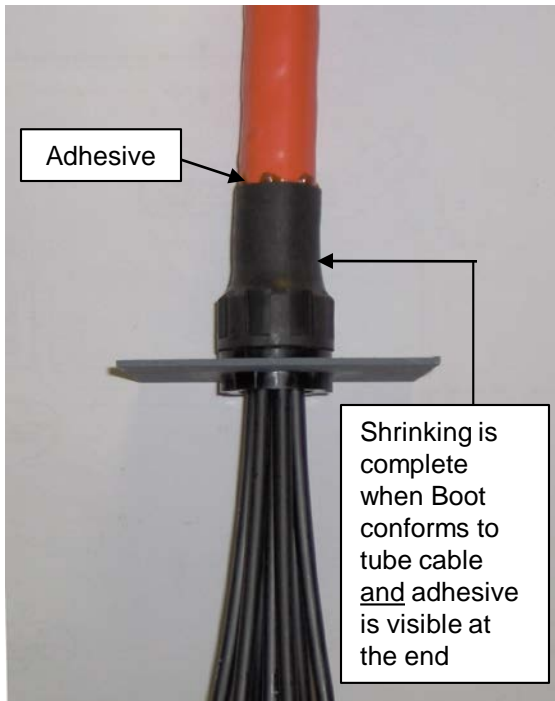
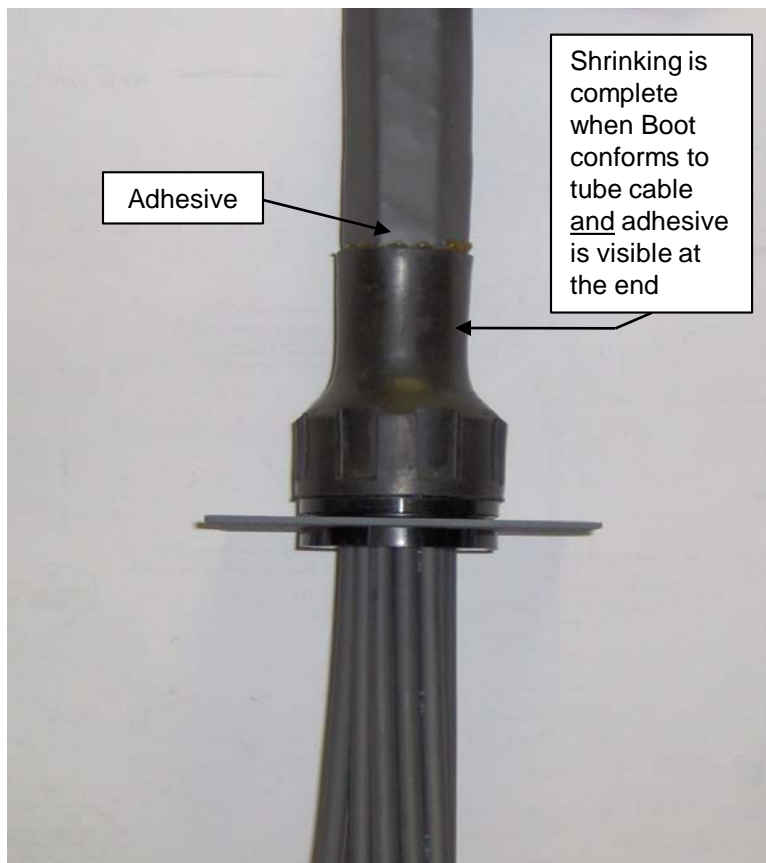

Figure 6a
Figure 6b
8.12 Continue shrinking boot uniformly until boot conforms to tube cable shape and a small amount of hot-melt adhesive is visible at the end of the boot signifying a good seal was made. **See Fig. 6a and Fig. 6b.**